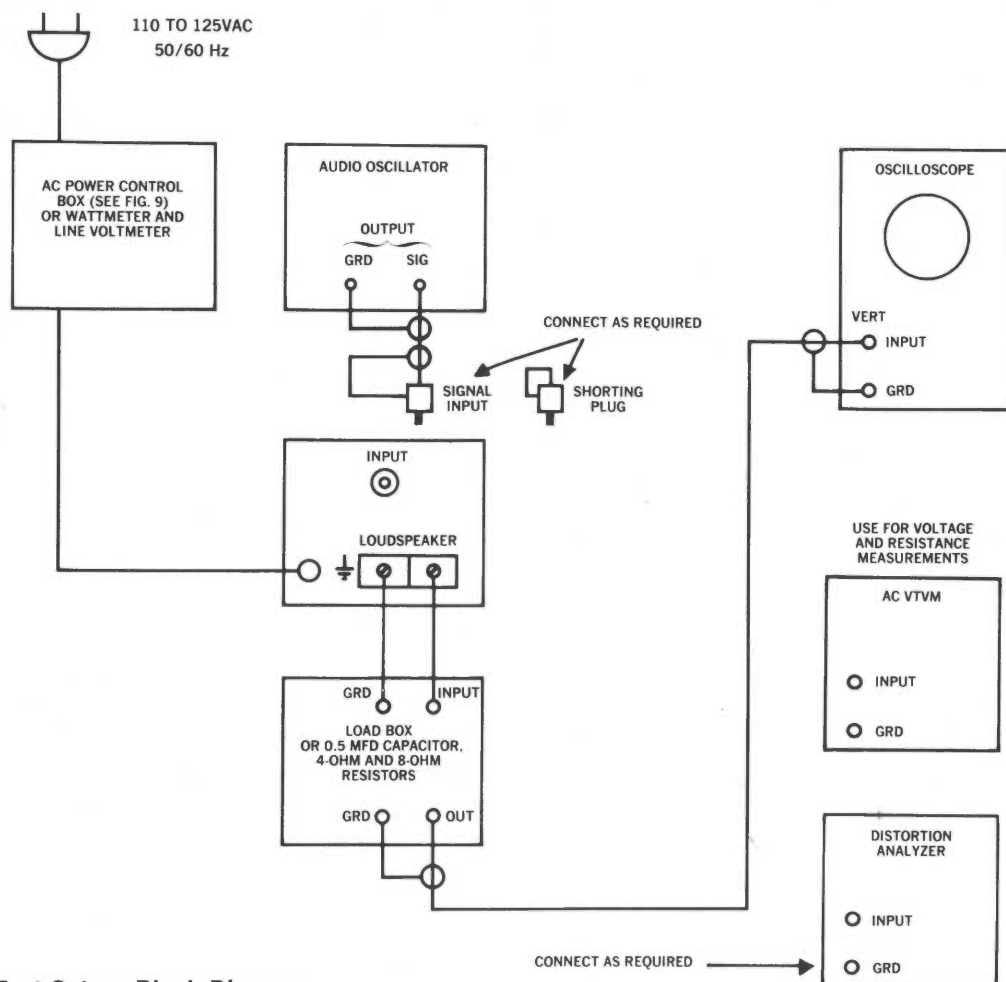

Figure 10. Test Setup, Block Diagram.
- Make the test set-up shown in Figure 10 with the instrument controls set in the following positions:
- With an oscilloscope connected as shown in Figure 10, set the oscilloscope in the DC amplification position and select the greatest gain position.